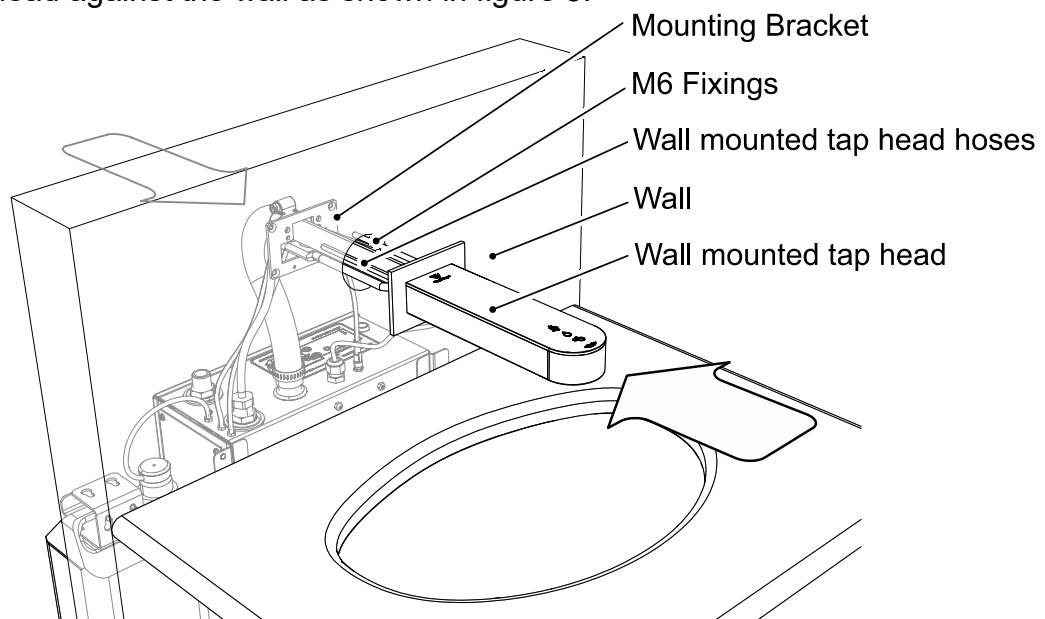

Figure 8: Front view tap head installation into wall.
2. Carefully pass tap head hoses through hole made in wall/panel before seating tap head against the wall as shown in figure 8.